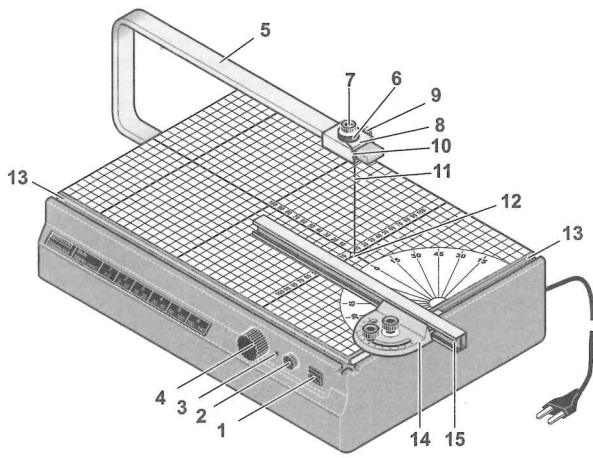
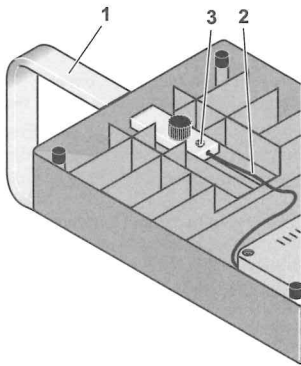

Fig. 1
Fig. 2
Overall view (Fig. 1):
Fit the clamp **1** (Fig. 2) on the underside of the device with the aid of the enclosed knurled screw. Fasten the cable **2** to the clamp with the screw **3**. Tighten the screw well to ensure good electrical contact (10.5 volt low voltage). Slide the spool carrier **8** (Fig. 1) on to the arm and fasten it with the screw **9**.
3. Open the lower wire guide by turning the knurled screw **4** (Fig. 1).
10. Switch on the device with the switch **1** (Fig. 1) (The transformer will make a humming sound).
After a longer period of operation, oxidation of the contact point on the upper frame can cause functional disruptions to the device. This is the case if the spool carrier (Item 6, Fig. 1) remains in one location for a long time and is not moved occasionally, e.g. for mitre cuts.